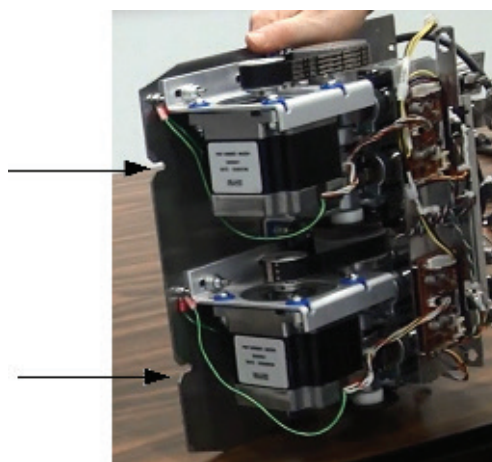

Figure 2-2 Location of notches on the pump sled
2. Align the pump assembly horizontally with the two notches facing the opening of the pump compartment (Figure 2-2).